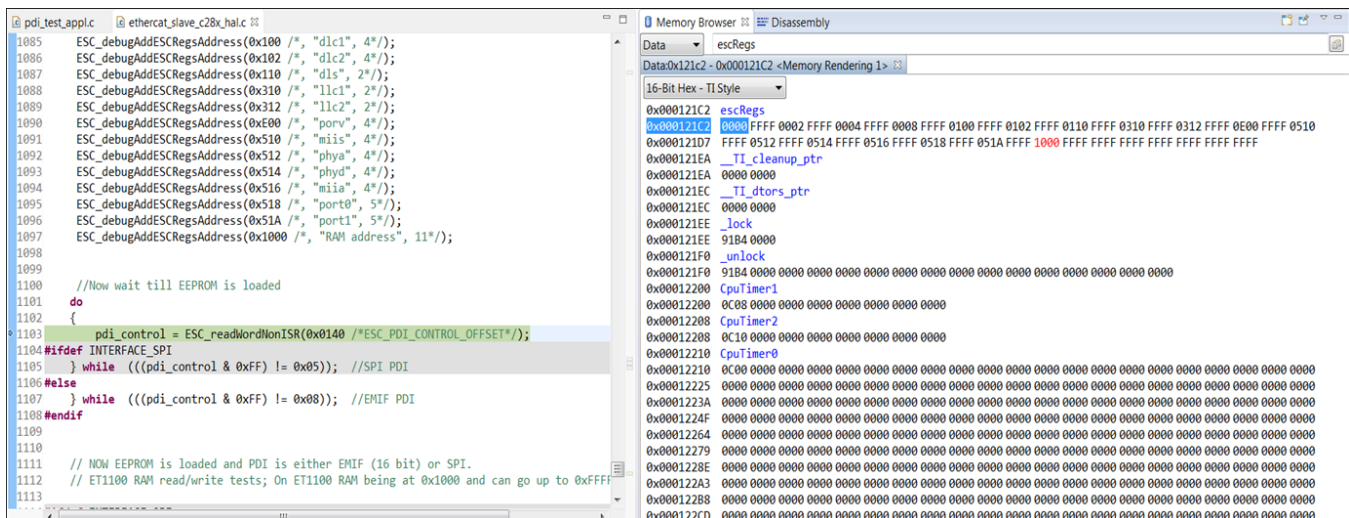

Figure 35. Device Debug Memory Window at INIT Time
3. Start the debugger and open the memory browser window as shown in Figure 35. The “escRegs” data array contains a list of ET1100 register addresses and values. These get updated in the `ESC_debugUpdateESCRegLogs()` function.